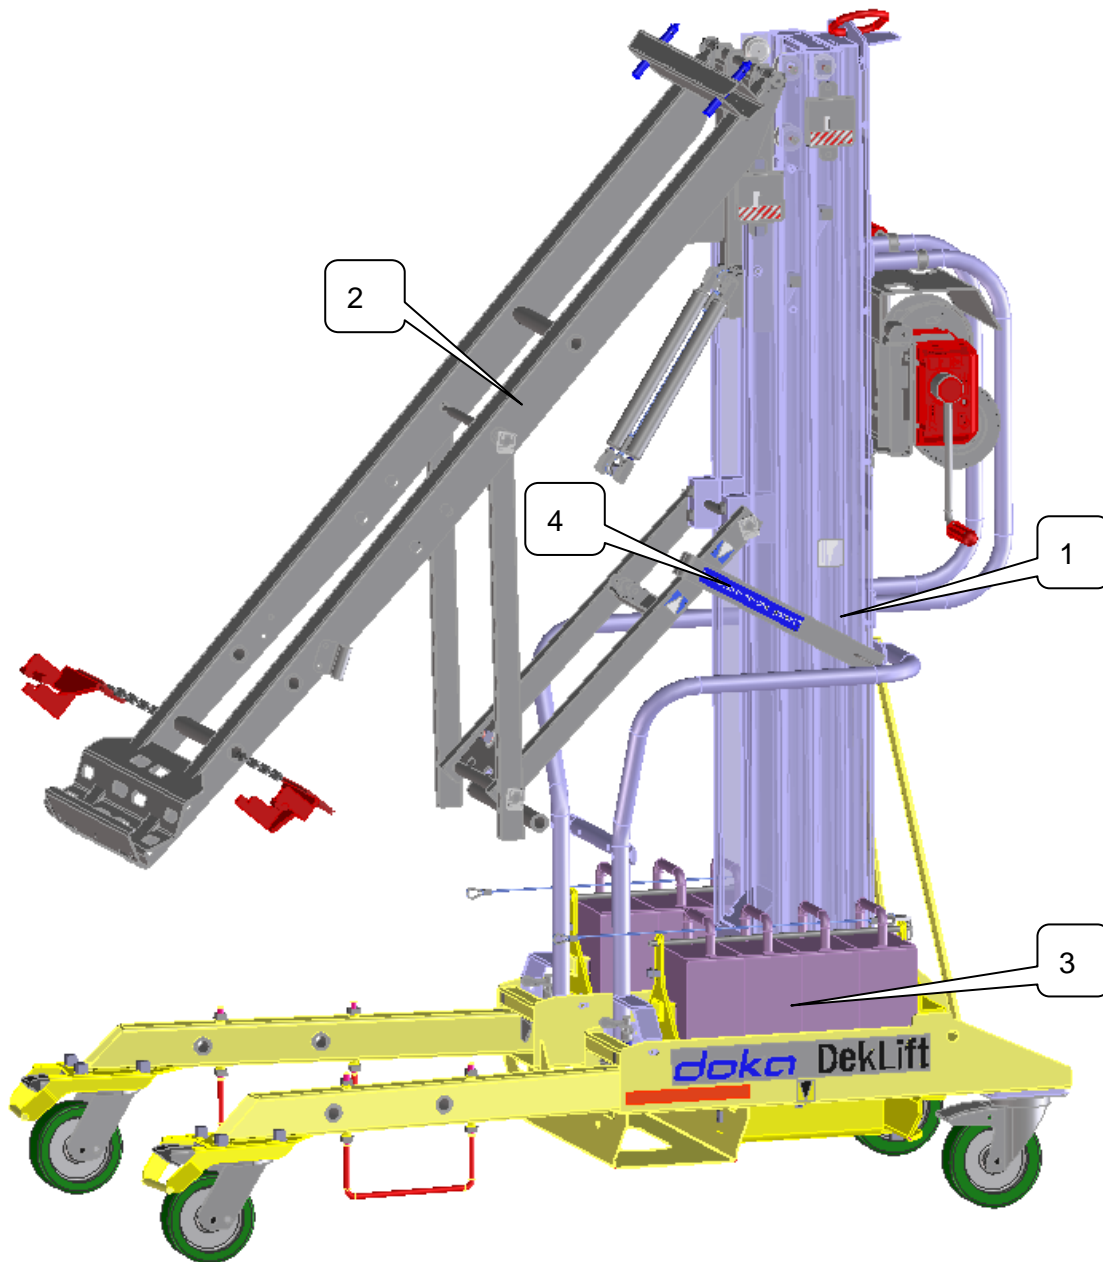

Fig. 35 Transport state
The rail package (1) is retracted and the load handling device (2) drawn in the transport position (see Fig. 35 Transport state).
The lashing straps are to be put on the points indicated with adhesive labels. Fig. 35 point (1) and (2)
There is an eye hook for transport at the upper end of the rail package (page 40; in fig. 35). Also with this form of transport, the rail protection must be locked and the wire cables of the manual winches tensed as otherwise the rails / masts slide apart.